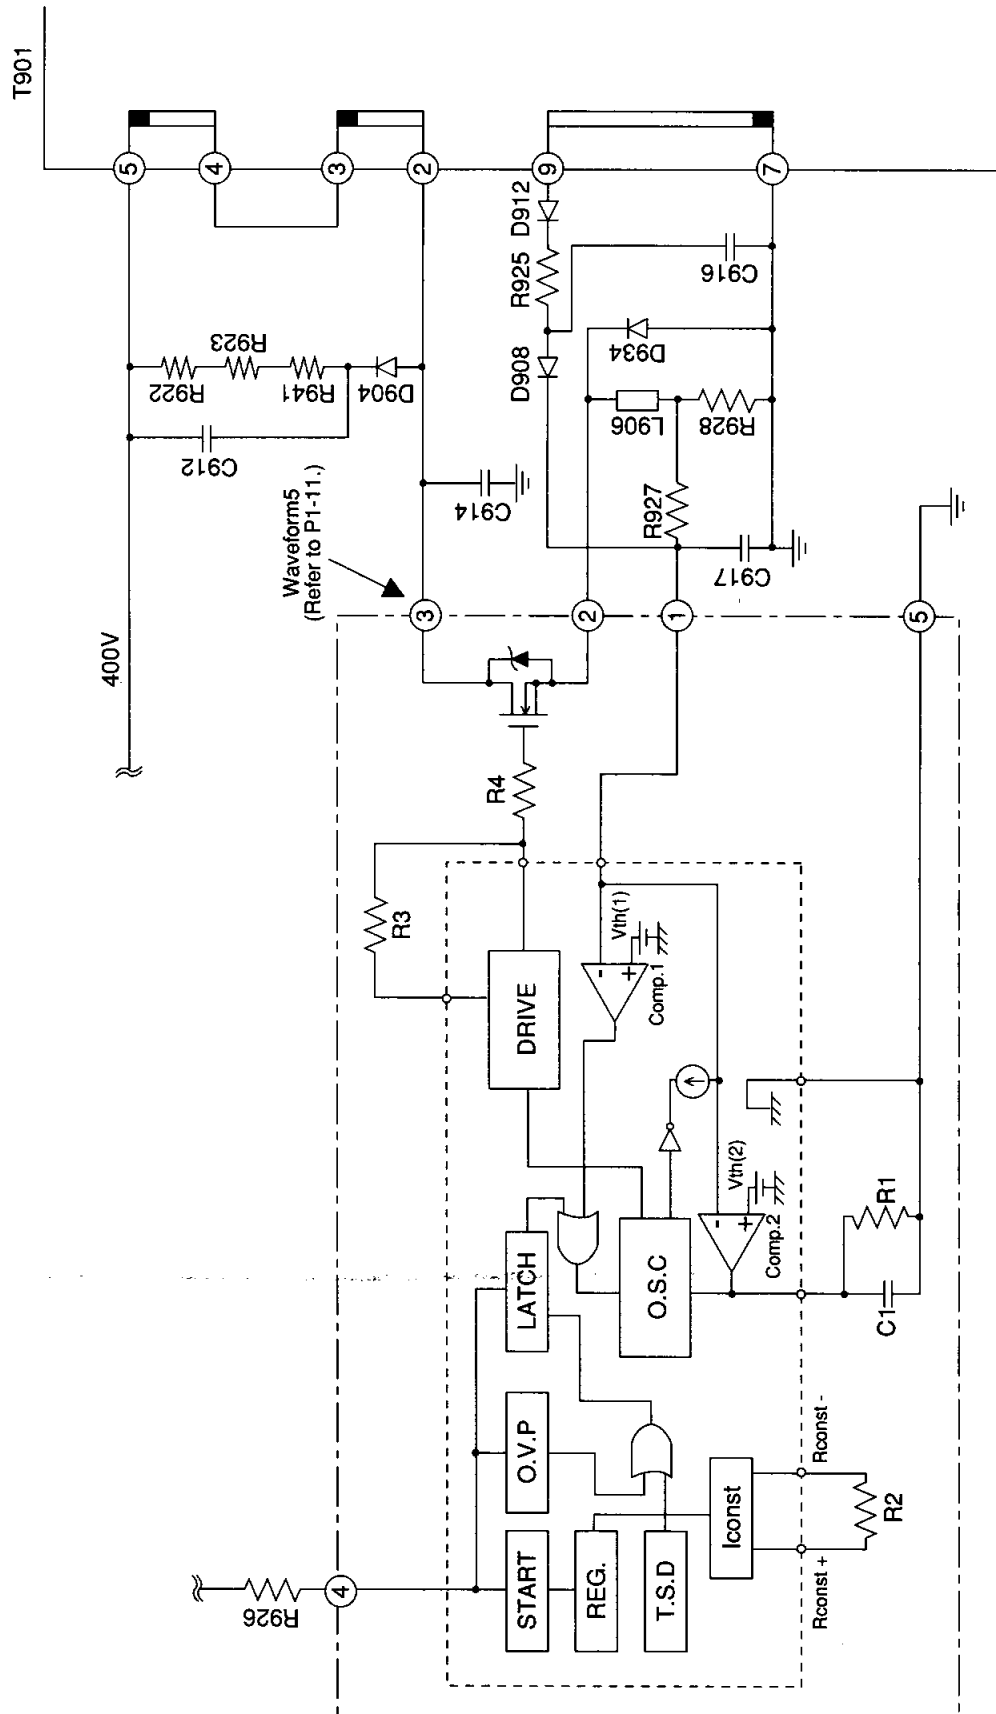

Figure 4. IC902 (STR-F6676) block diagram and peripheral circuit
- (1) The main power circuit adopts the flyback type switching power of pseudo-reonance operation. This is composed of a Sanken brand hybrid IC (STR-F6676) that integrates the power MOS-FET and control IC. The circuit operation is described as follows. (See Fig. 4.)
- (2) The timing at that the power MOS-FET is turned ON is consistent with the bottom point of the voltage resonant waveform after the transformer (T901) discharges the energy to the secondary side, that is, a half cycle of the resonant frequency determined by Lp value (primary coil inductor value) of T901, and C914 (resonant capacitor). This is called pseudo-reonance operation. The advantage of such an effect is that the switching loss is reduced by turning it ON when the voltage between the drain sources of the power MOS-FET becomes the lowest.
- (3) Like the higher harmonic circuit, voltage of approx. +18V is supplied to the Vcc terminal (Pin 4) of IC902 (STR-F6676) via D932 from Pin 2 of T902 when Q902 is turned ON by the P-SUS signal from the MPU. When the voltage of Pin 4 of IC902 reaches 16V, the control circuit will be put into operation to turn ON the integrated MOS-FET.
- (4) When MOS-FET is turned ON, the capacitor C1 in IC will be charged to approx. 6.5V. On the other hand, the drain current flows to R928, and the voltage generated by the voltage drop is applied to Pin 1 (OCP/FB terminal) of IC902. When the voltage of Pin 1 reaches approx. 0.73V, the comparator (Comp. 1) in IC will be activated to turn OFF MOS-FET.
- (5) The voltage between both ends of C1 drops to approx. 3.7V. the oscillator output will be reversed again to turn ON MOS-FET. The above is repeated to continue the oscillation operation.
- (6) Here, IC902 monitors +190V of the output on the secondary side with IC921 (error amplifier) and feeds back it to Pin 1 of IC902 with IC911 (photocoupler), thus suppressing the voltage fluctuation of the primary side.